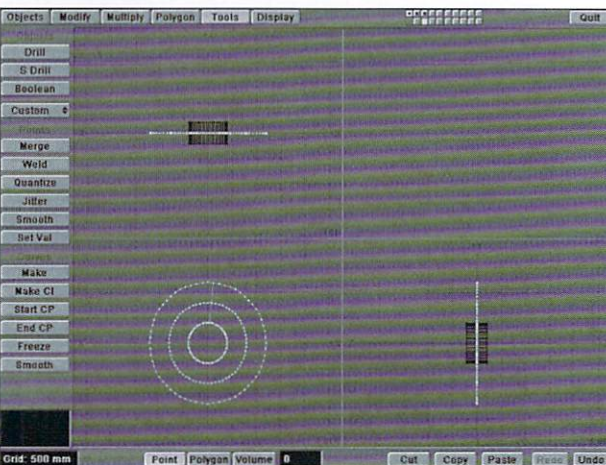

Figure 5: The results of two Stencil operations.
- With the same foreground layer, select the third disc as the background layer and perform the same Stencil operation to it. You should now have something like Figure 5.